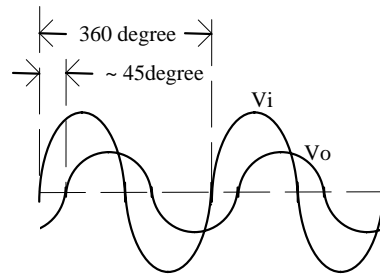

Figure 2 Phase lag of V_o .
The phase lag of a circuit can be thought of as the amount of delay in the signal as it goes through the circuit. Phase lag is measured in degrees as shown in Figure 2. The phase lag of the circuit shown in Figure 2 is the angle of the transfer function, $1/(1+j\omega CR)$, evaluated at the frequency of the signal. We will verify this relation by the following experiment.
3. Set the scope to dual-trace mode. Display both V_i and V_o on the scope at the same time. (Ask the TA for help if needed). Measure the phase lag of this circuit as shown in Figure 2 at $V_i=1.6$ kHz. **Does the theoretical value match the observed value?**